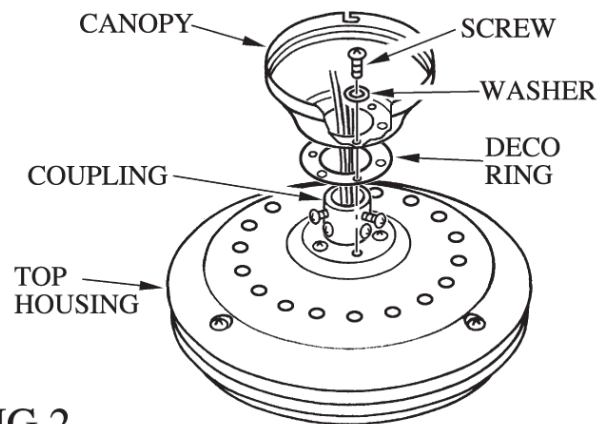

FIG.2
2. Reinstall the 3 screw on the top housing to attach the deco ring and canopy together (see Fig.2)